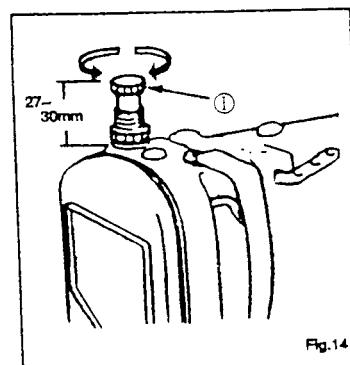

Fig.14
12. To adjust pressure on the presser foot (Fig. 14)